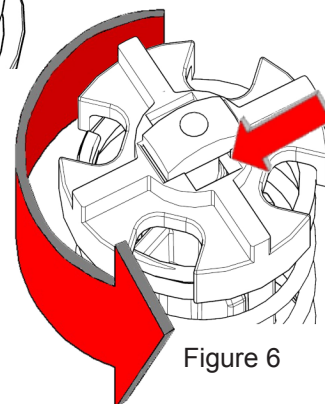

Figure 6
3. Rotate the bypass valve retainer 90 degrees clockwise and allow the spring to gently push it back up to contact the locking tab. The locking tab **MUST** be seated in the indentation in the bypass valve retainer (Figure 6).